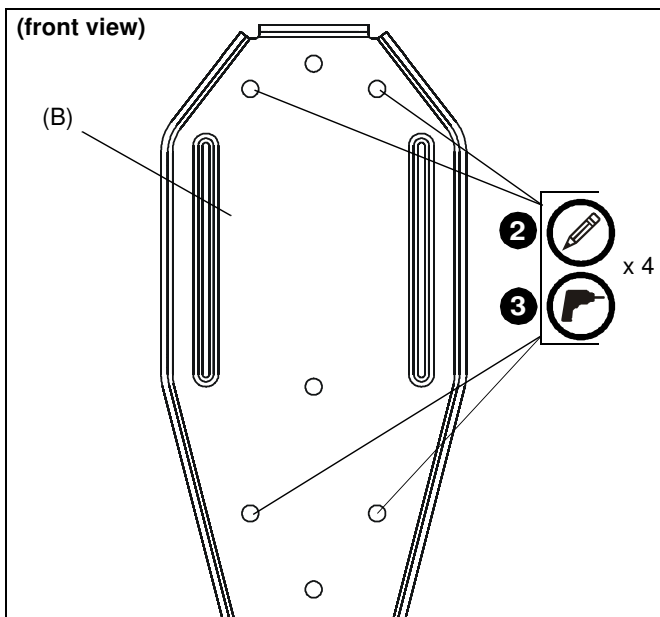

Figure 1
2. Using mounting bracket (B) as a template, mark four holes at the outer holes in bracket. (See Figure 1)
3. Drill four 3/8" x 3-3/8" deep holes at marked locations in wall. (See Figure 1)